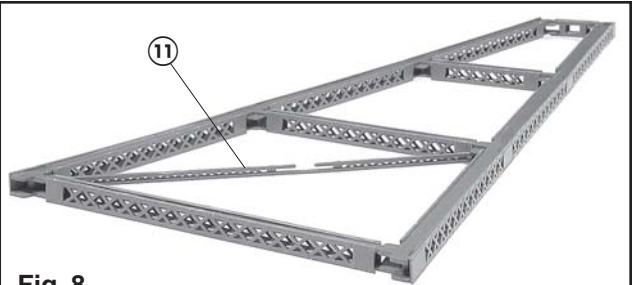

Fig. 8
See fig. 8. Position the bent X-brace with the notch facing up and its lattice straps toward the top of the bent. Align the X-brace at each end with the rows of rivets on the bent gusset plates. Position the second bent X-brace, part (11), in the opposite two corners in the same way but with the notch down. Adjust the position of the two X-braces so their slots are centered on one another. Turn the bent assembly over and adjust the position of each X-brace on the opposite side gusset plates.